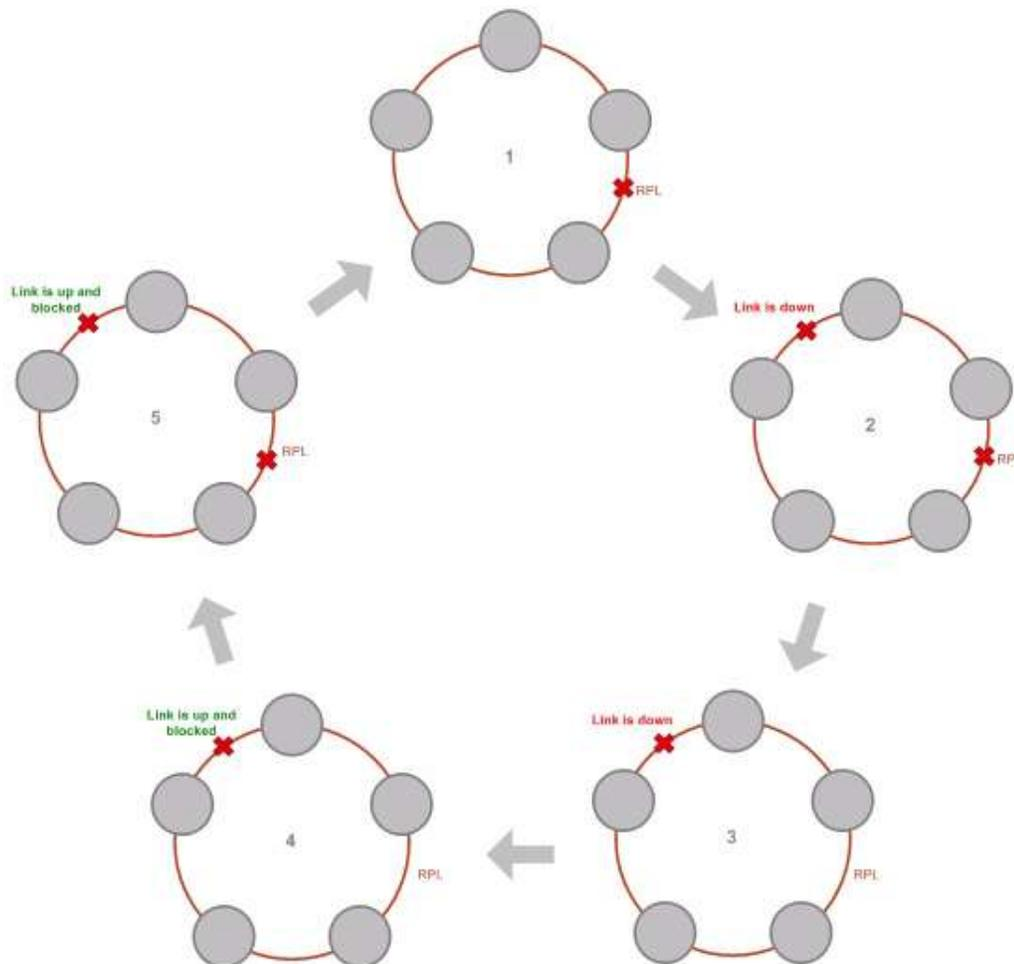

Figure 4-7. Ring Protection Mechanism
The steps below follow the numbering in Figure 4-7.
- Under a ring configuration a Ring Link that was down and commences recovery, keeps blocking Ethernet traffic. The RPL identifies this situation, blocks itself and then unblocks the other Ring Link. This is the transition from step 4 to 5 in *Figure 4-7*.